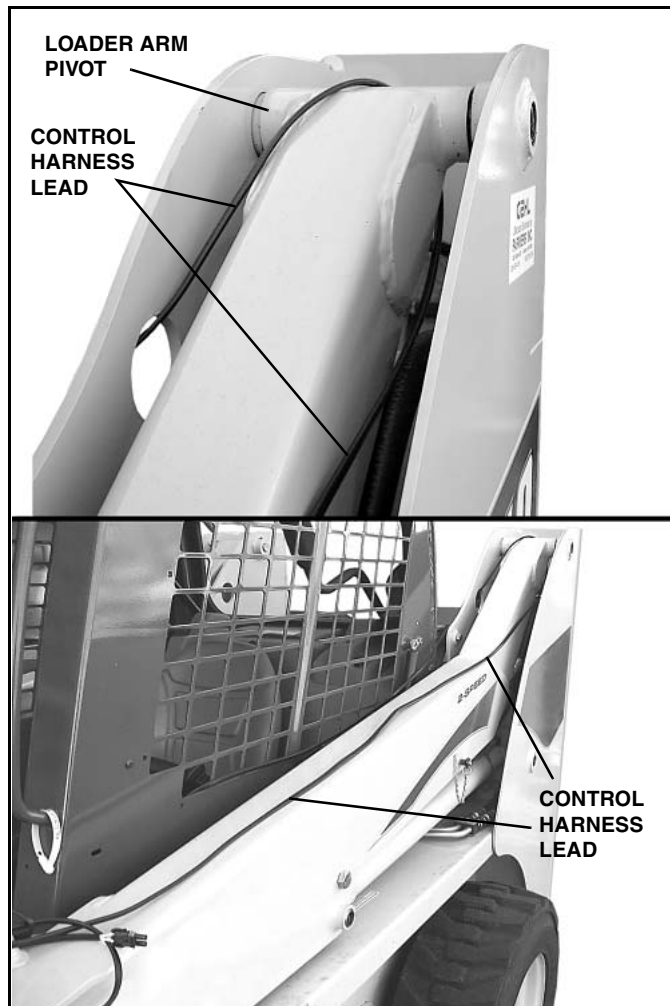
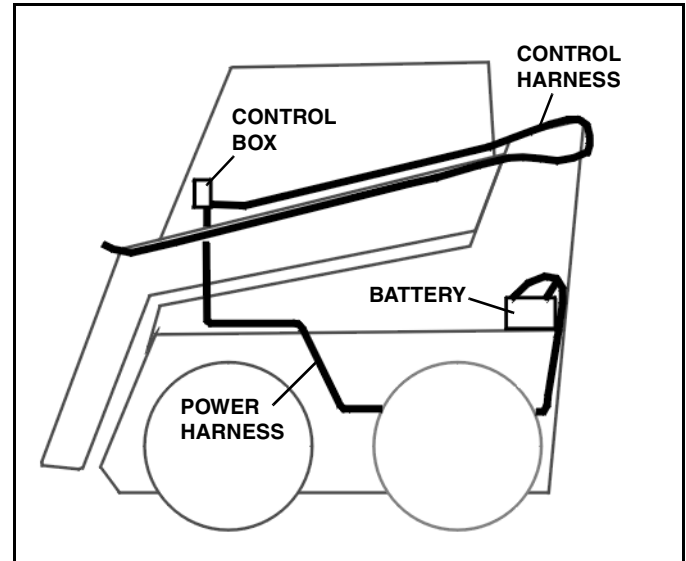

Figure 1-3
Figure 1-4
2. Route the power harness lead to the battery (See Figure 1-4). Connect the YELLOW wire to the negative (-) battery terminal and the WHITE wire to the positive (+) battery terminal.
3. Route the control harness lead around the pivot point on the loader arms on the back of the Skid Steer and down the top of the loader arms to the front. Allow enough slack when routing wire so that wiring is not put in tension when the loader arms are moved. Position the wiring to prevent pinching when loader arms pivot, and secure with cable ties. (See Figure 1-3) and (See Figure 1-4).